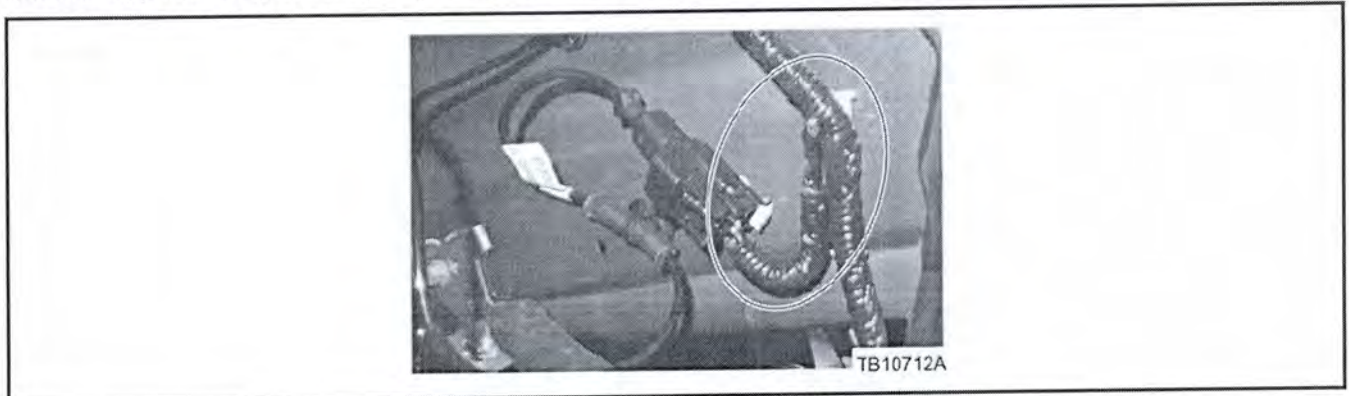

Figure 1 - Article 15-0075
4. Remove the tape and plastic convolute around the take out to connector C1668 and C1669 and the main wire harness, approximately 5.0 cm (2.0") in each direction from the take out. (Figures 1 and 2)
6. Isolate any chafed/corroded wiring and replace connector (main harness 14290 side only) C1668 and C1669 with a new pigtail connector. Refer to the wiring repair kit instructions included in the pigtail kit. (Figure 1 and 2)
7. Wrap the main harness wiring 5.0 cm (2") in both directions from the take out and wrap the entire wiring of the new pigtail connectors with Coroplast™ electrical wire harness tape or equivalent. (Figure 1 and 2)
- a. For MKT make sure the connector take out is routed behind the main wiring harness. (Figure 1)